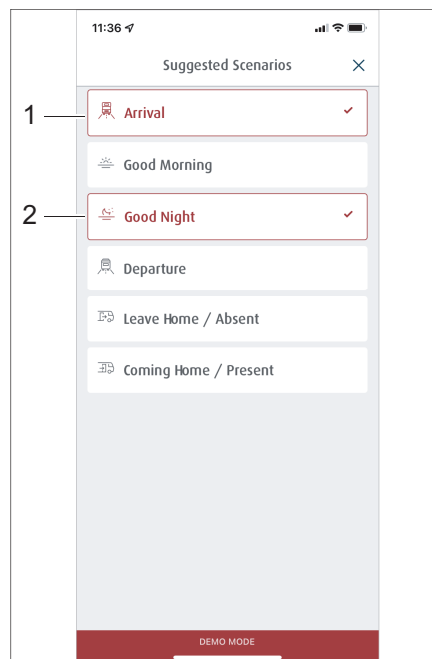

Fig. 302 Selecting preset scenarios
- Click on the desired scenarios, e. g. *Arrival* (Fig. 302,1) and *Good Night* (Fig. 302,2).